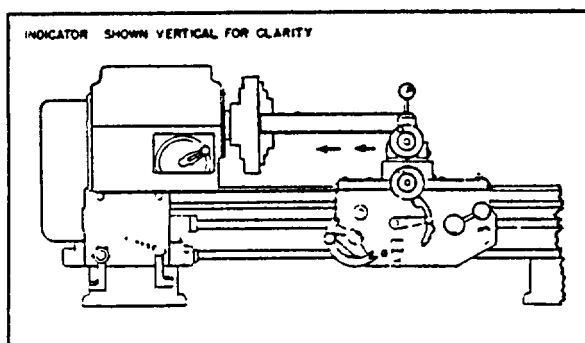

Fig. 14.
3. Mount the indicator on the tool post in a horizontal position, as shown in Fig. 14, and note the indicator 12" along the test bar by feeding the carriage. The total indicator reading should not exceed .0005.